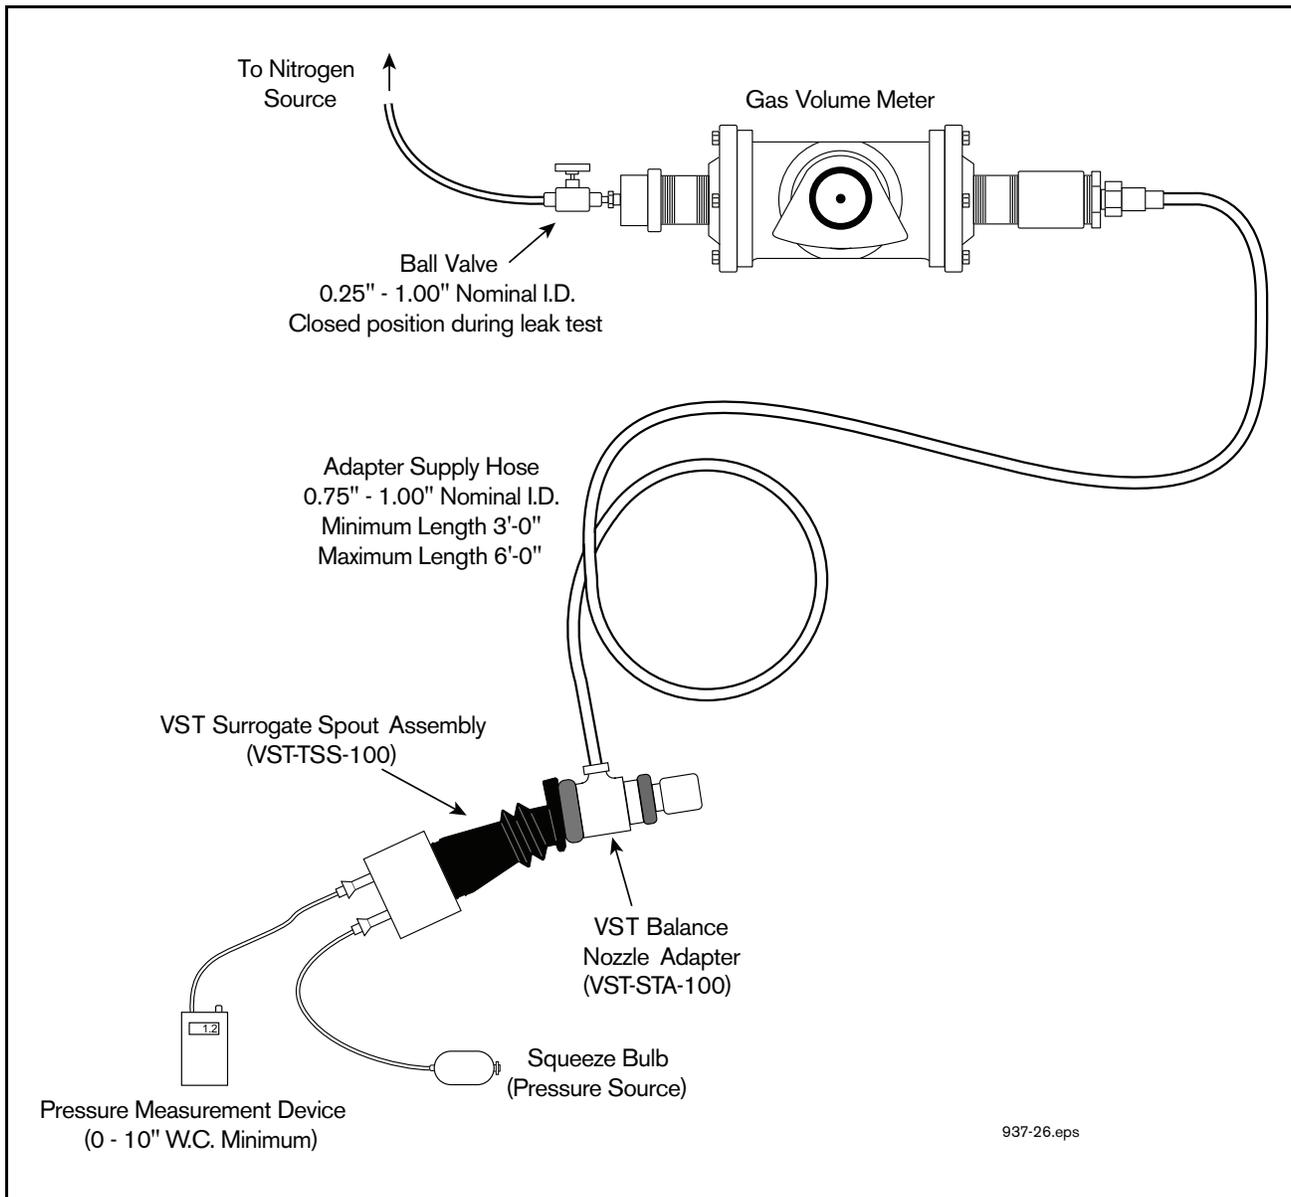

Figure 26. VST Surrogate Spout Assembly
Surrogate Spout. Only the VST Surrogate Spout Assembly, VST-TSS-100, can be used to conduct the pre-test leak check. Figure 26 shows the VST Surrogate Spout Assembly.
3. Conduct a pre-test leak check of the Balance Nozzle Adapter, the gas volume meter and the adapter supply hose by connecting the Balance Nozzle Adapter to a surrogate spout as shown in Figure 26. Turn the ball valve in the Figure 26 to the closed position. Raise the test pressure to 5.00" \pm 0.50" WC using a squeeze bulb. There shall not be a pressure drop of more than 1.00" WC from the above starting pressure for 30 seconds from the start of the test. If the leak test passes, proceed with the testing. If the leak test fails, proceed to isolate the source of the leak by pressurizing the test equipment again. Squirt liquid leak detector solution on interfaces and other potential leak sources and watch for the formation of bubbles. Once leak(s) are repaired, repeat the leak test procedure.